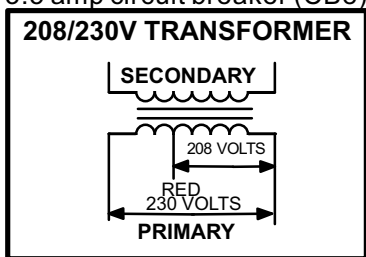

FIGURE 3
The 208/230 (Y) voltage transformers use two primary voltage taps as shown in figure 3, while 460 (G) and 575 (J) voltage transformers use a single primary voltage tap.